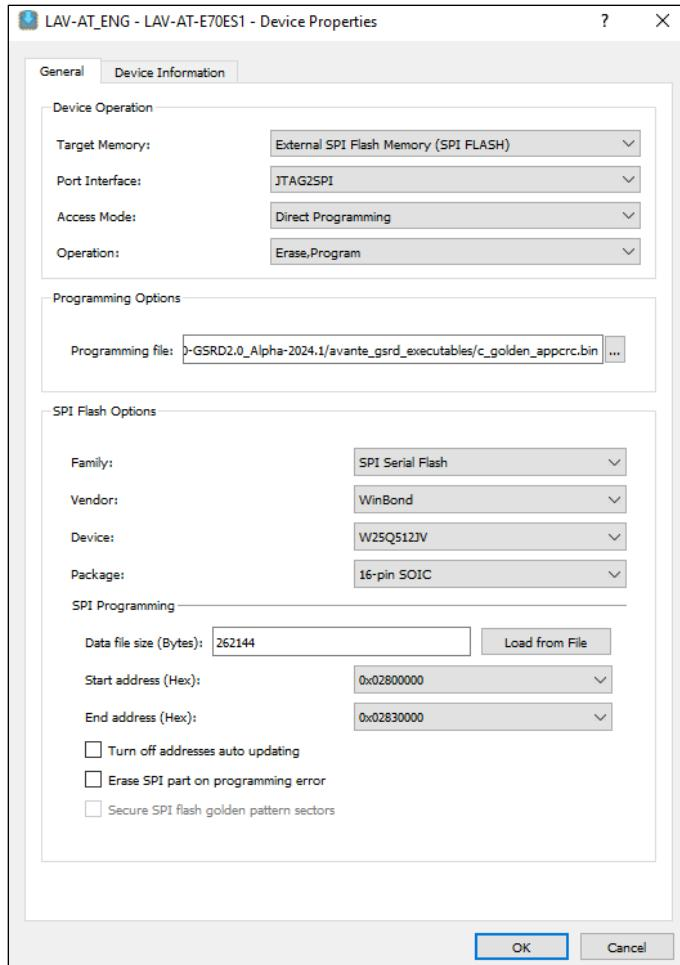

Figure 7.37. Device Properties for Programming Golden App Binary with CRC
5. To program the **c_golden_apcrc.bin** software file into the SPI Flash, Follow the settings as shown in Figure 7.37.